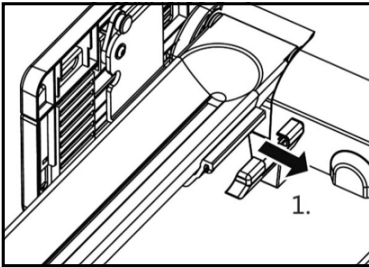

Figure 3: Mounting aluminium adaptor
To fasten the third bicycle rail to the rack, the aluminium adaptor (item 2 in the scope of delivery) must be mounted on the back bicycle rail of the PREMIUM TG bicycle rack. Fasten the aluminium adaptor, as shown in Figures 3 to 6.